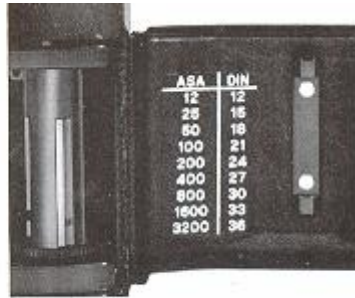

Fig. 14
* The scale represents the relation between ASA and DIN number is illustrated on the inside of Back Cover (44) (**Fig. 14**).